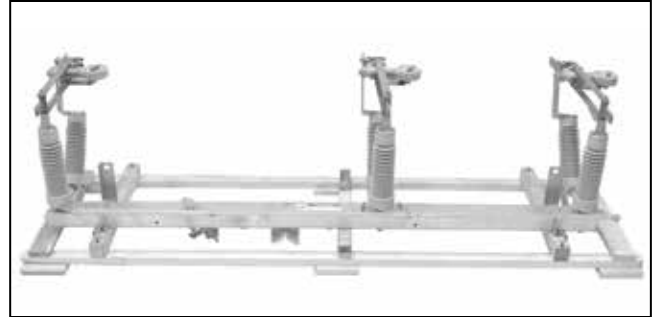

Figure 5. Uncrating the switch.
STEP 3. Remove the switch from its crate. See Figure 5. Protect the bearings from contamination by dirt, mud, oil, etc. If necessary, use blocks to keep the bearings clear of the ground.